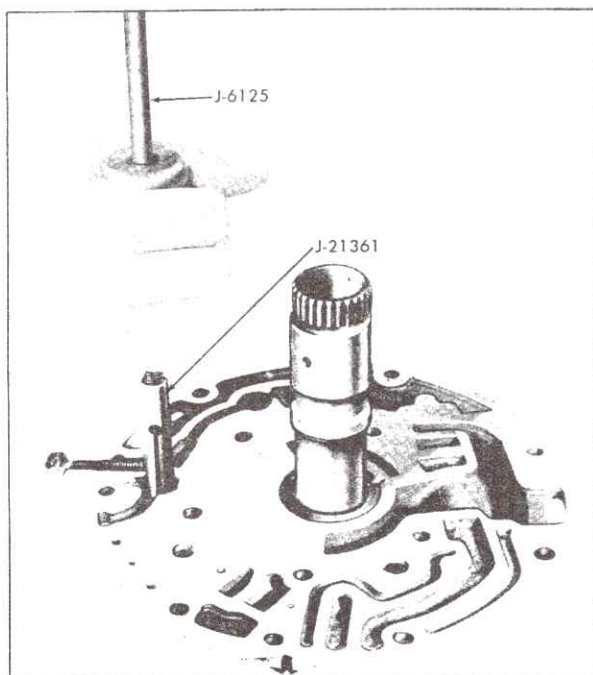

Fig. 7-57 Removing By-Pass Valve Seat
15. If necessary, remove the cooler by-pass valve seat using Pump Check Valve Seat Remover, J-21361, attached to Slide Hammer, J-6125-1, and Adapter J-6125-2, Fig. 7-57. Install remover tool in valve seat and drive upward on slide hammer to remove valve seat.